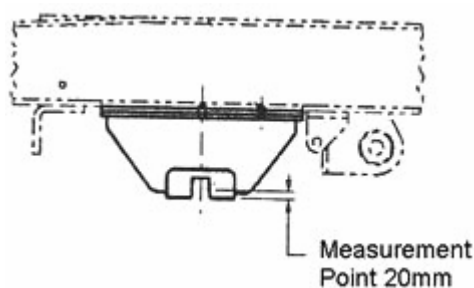

Figure 4: View on Arrow Z
- The midpoint of the tapered location slots, 20mm from the bottom face (see Figure 4).